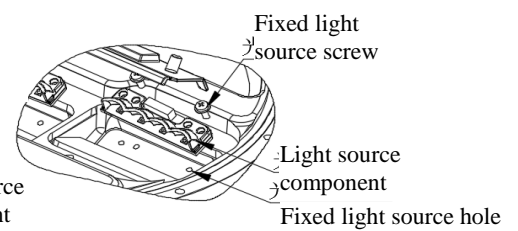

Figure 4-7
- Fetch the new light source component, assemble it onto the upper cover with the above-mentioned method and insert its pin into the binding post. During this process, please note the installation direction of the light source component. There are 4 fixed light source holes and the installation position depends on different combinations of the holes (Figure 4-7).